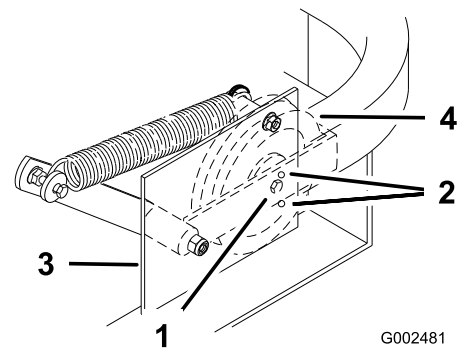

Figure 55
Important: Check and make sure the belt is installed into both the front and rear belt guides (Figure 55).
4. Check the belt tension. The spring loaded idler center bolt needs to be near the top alignment hole in left support plate (Figure 55).